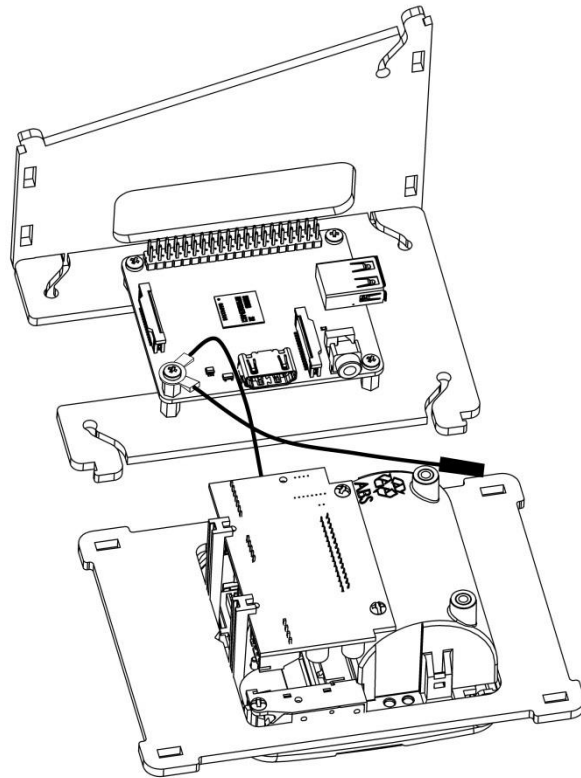

Figure 6
- 11) Using 1x M2.5x6 screw, attach both the printer earth strap eyelet and the grounding wire to the hex stand-off at the front right of the unit as shown in *Figure 6*.